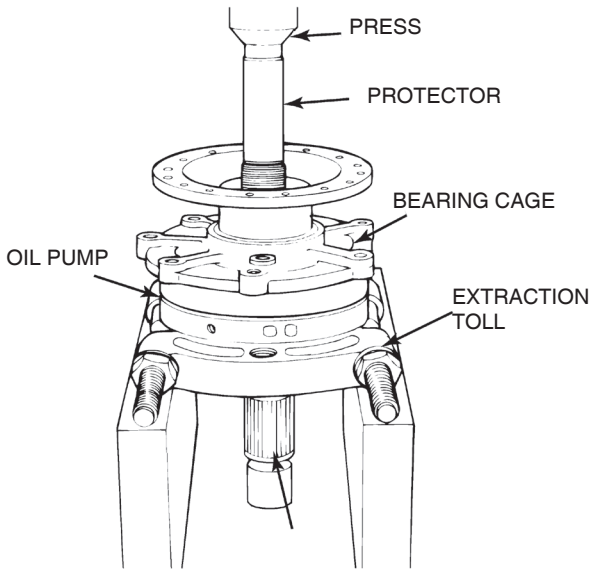

Figure 3.34
B. Place the assembly on a press so that extraction tool it rests on the differential. Figure 3.34.
C. Place a protector on top of the input shaft. Remove the input shaft from the assembly. Remove the extraction tool. Figure 3.34.